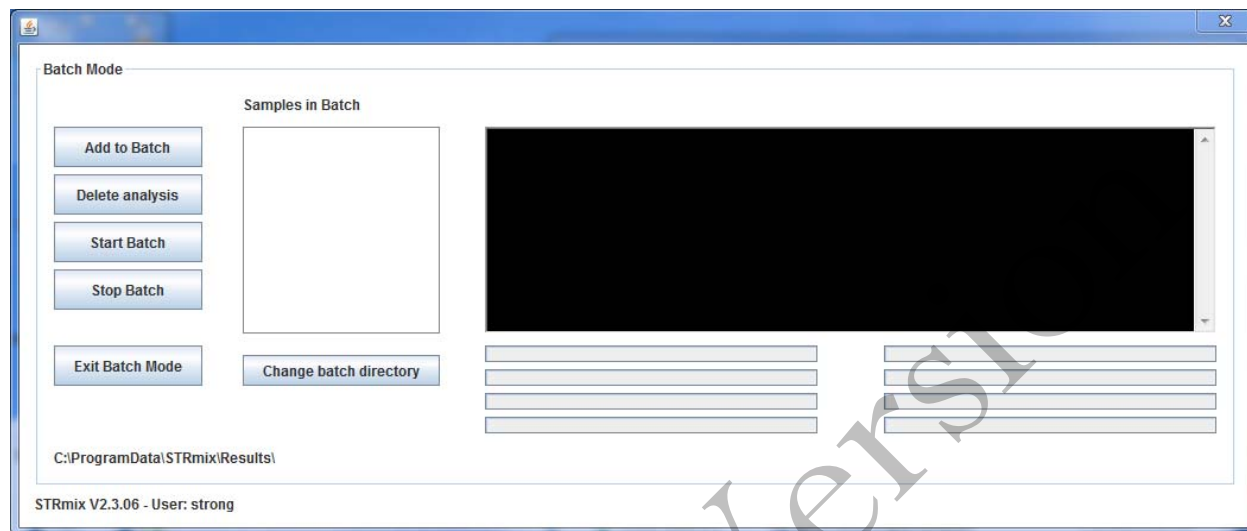

FIGURE 5
2. The process proceeds in the same way as Single Sample Analysis by going through steps 1 through 6. After step 6, when Start is selected, the software does not actually start a deconvolution, but will return you to the screen in Figure 5.
3. Once at the screen in Figure 5, additional STRmix™ analyses can be queued by repeating step 2 above. Once all the samples for the batch have been added, selecting Start Batch will commence the deconvolutions. The deconvolutions will proceed in alpha-numeric order.